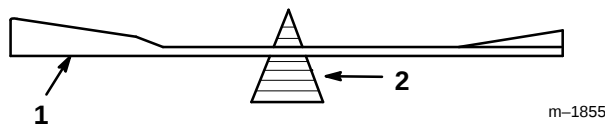

Figure 20
2. Check the balance of the blade by putting it on a blade balancer (Fig. 20). If the blade stays in a horizontal position, the blade is balanced and can be used. If the blade is not balanced, file some metal off the end of the sail area only (Fig. NO TAG). Repeat this procedure until the blade is balanced.